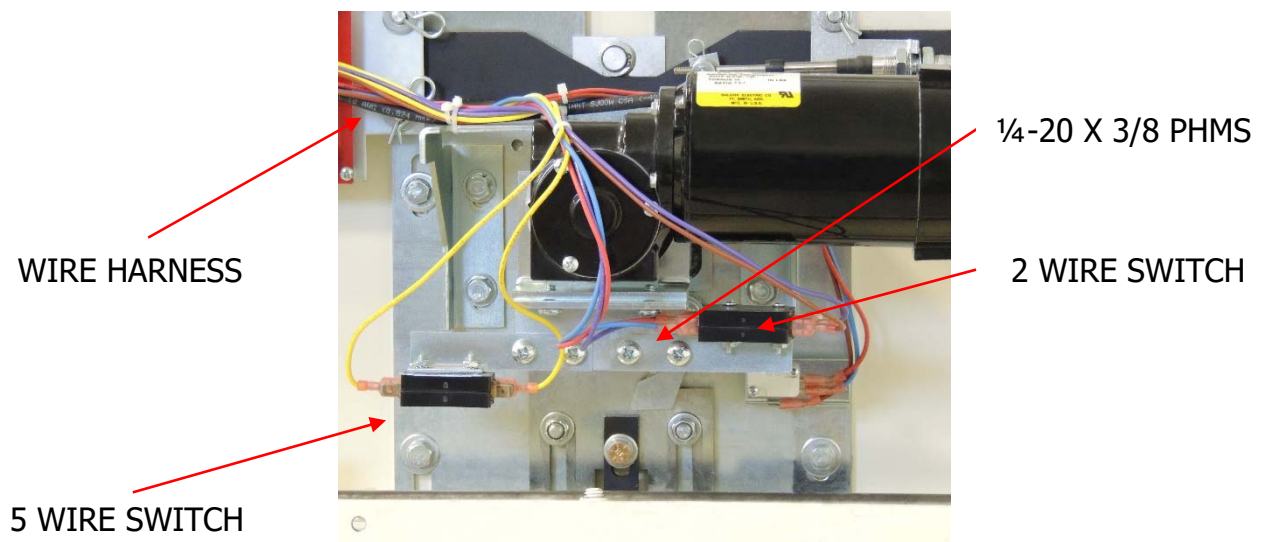

FIGURE 17
15. The **Harness** is installed with the **5 Wire Limit Switch** on the side to which the door closes and the **2 Wire Limit Switch** opposite. The limit switches are attached to the **Limit Switch Bracket** with (2) 1/4-20 x 3/8" PHMS and (2) 1/4" lock washers (**Hardware Bag #7, #10**). Wires are run up the left side of the motor and attached to the slot left of the motor mounting slots along with the deadlock switch wires and the motor plug (Figure 17).